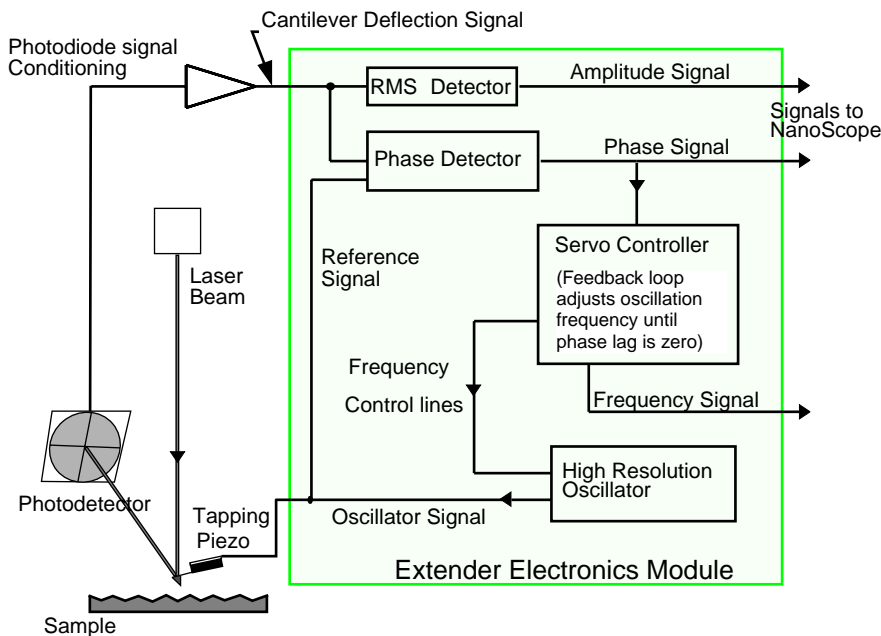
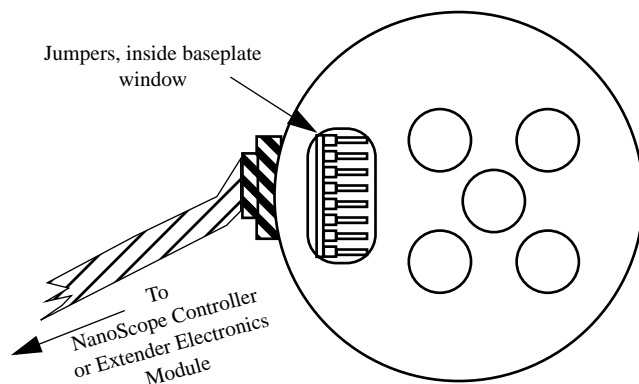
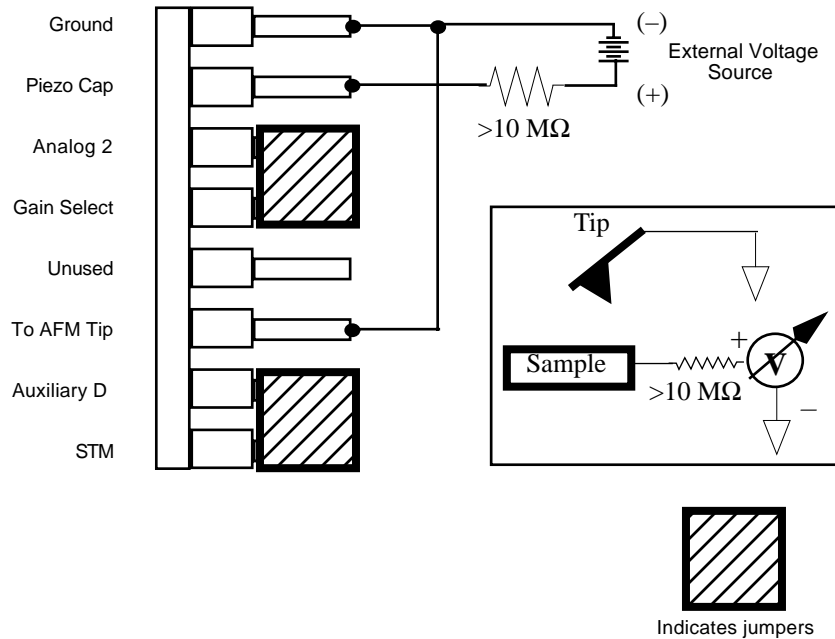
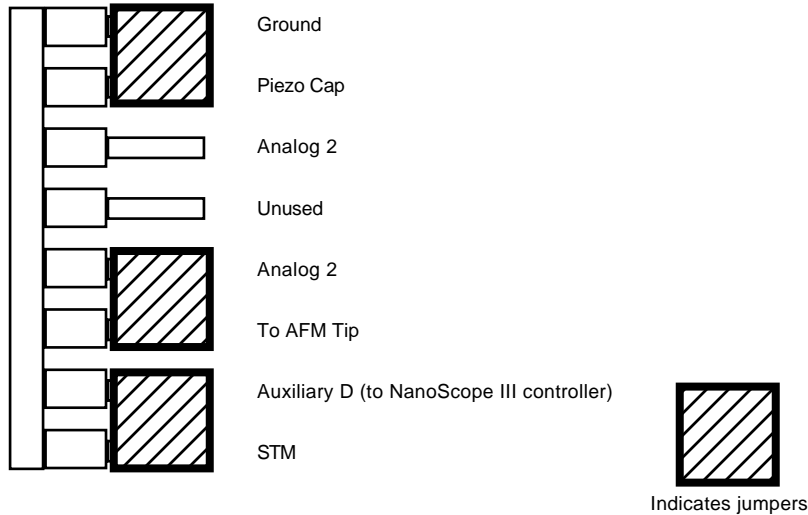

Figure 14.5. Diagram of Extender Electronics Module in phase and frequency measurement mode.
Figure 14.6. Diagram of MultiMode baseplate showing location and orientation of jumpers.
Figure 14.11. Jumper configuration for applying external voltage to sample (for systems *without* the Extender Electronics Module).
Figure 14.12. Normal jumper configuration as shipped from factory for MultiMode SPM *with* Extender Electronics Module installed.
The location and orientation of the jumpers in the baseplate of the MultiMode is shown below in Figure 14.5. To change the jumpers, it should not be necessary to remove the baseplate; they can easily be changed through the rectangular opening in the bottom of the baseplate using a pair of non-conducting tweezers. For non-
4. Carefully tilt the MultiMode so that the baseplate is oriented as shown in Figure 14.5. Locate header and jumpers. As shipped from the factory, jumpers on systems *without* the Extender Electronics Module should appear as shown in Figure 14.6, whereas jumper systems *with* the Extender Electronics option should appear as in Figure 14.11. If the microscope is to be used for EFM imaging in cases where voltage is applied to the tip or sample, it is necessary to change the jumpers.
As shipped from the factory, the jumper configuration on a MultiMode SPM without the Extender Electronics Module should appear as shown in Figure 14.6 below.
As shipped from the factory, systems *with* the Extender Electronics option, should have an original baseplate jumper configuration as shown in Figure 14.11.
Notice that the jumper configuration in Figure 14.12 connects the Analog 2 signal from the NanoScope III controller (± 12 VDC range) to the tip, and is **exactly the same** as the jumper configuration shown in Figure 14.11, the standard configuration as shipped from the factory.